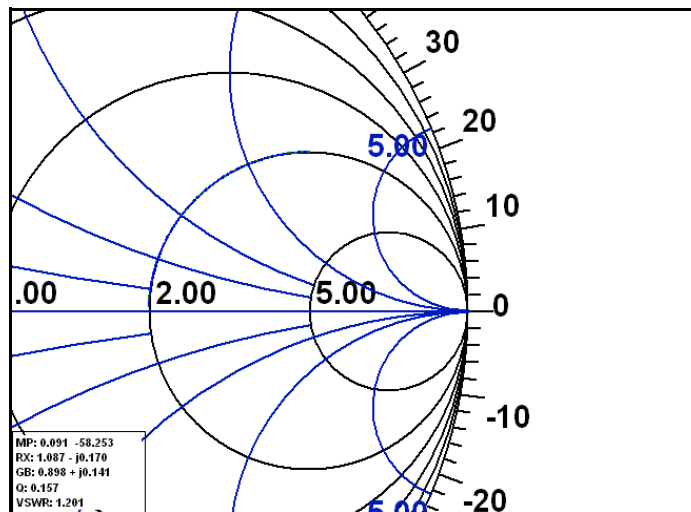

Figure 13. Zooming in on the Smith Chart.
26. Right click anywhere on the Smith Chart and some options will appear. Select **Zoom In**. To enlarge the area like that shown in Fig. 13, hold down the left button of the mouse, drag the square symbol over the desired area and release the left mouse button.